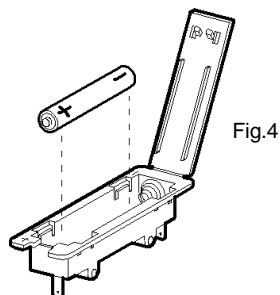

Fig.4
1. The battery holder is located at the front left hand side of the bottom storage compartment (see Fig. 4).
3. From inside the bottom compartment, lift the battery holder lid and fit the 1.5 volt battery (see Fig.4) ensuring it is fitted as indicated by the symbols on the battery holder.